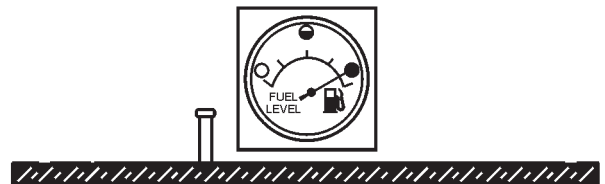

Figure 21. Full Fuel Tank
3. **NEVER overfill fuel tank** — It is important to read the fuel gauge when filling trailer fuel tank. **DO NOT** wait for fuel to rise in filler neck (Figure 21).